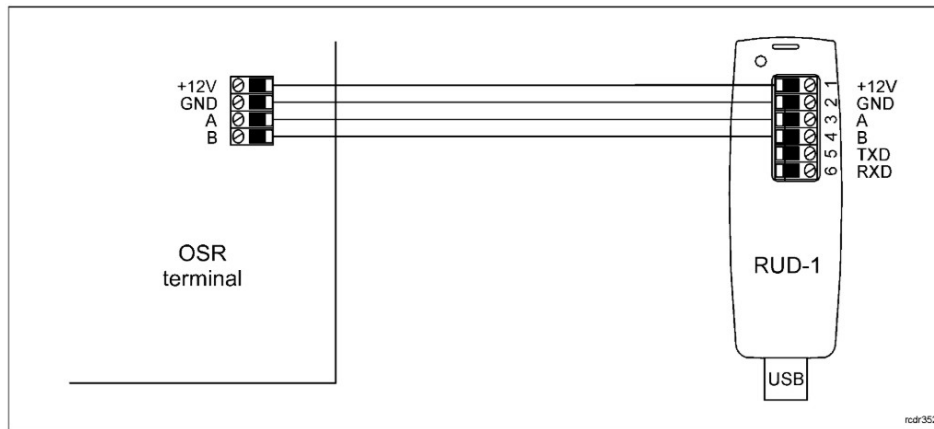

Fig. 1 Connection of OSR terminal to RUD-1 interface.
1. Connect the device to RUD-1 interface (fig. 1) and connect the RUD-1 to computer's USB port.
The firmware of device can be changed to newer or older version. The update requires connection to computer with RUD-1 interface (fig. 1) and starting RogerVDM software. The latest firmware file is available at www.roger.pl.